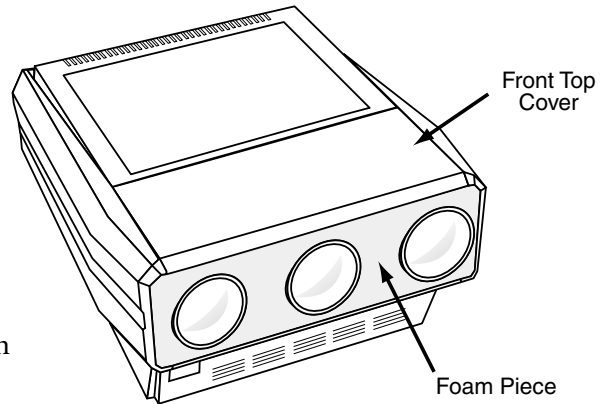
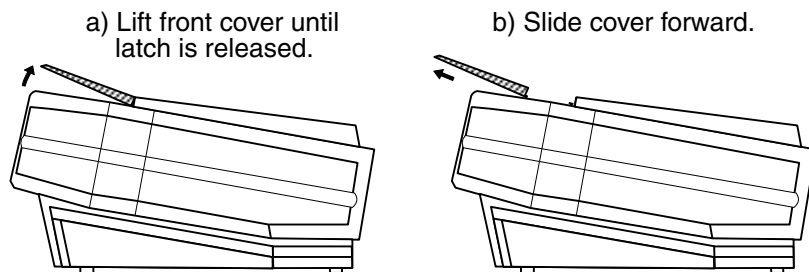

Figure 2-19. *Front Top Cover*
Figure 2-20. *Front Top Cover Removal*
Step 2 ▶ Locate the front top cover of the projector. See Figure 2-19. Next, position your hands above the red and blue lenses then grasp the cover. Gently lift it until it is released from its securing latch. Slide the cover away from the projector as shown in Figure 2-20 below.